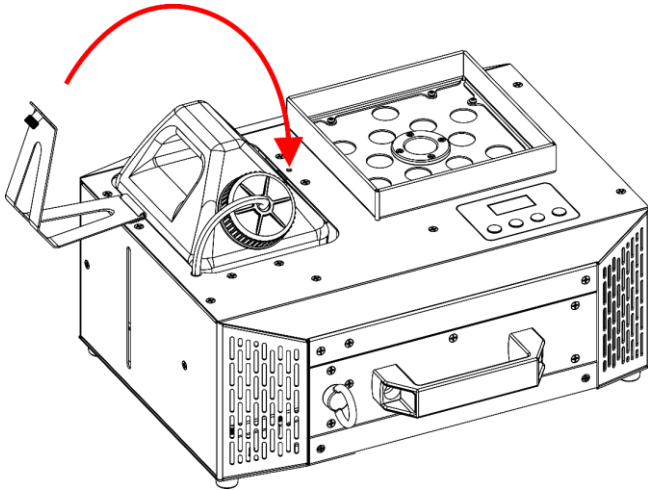

Fig. 36
- 11) Tilt the **bracket for liquid tank (03)**, as shown in Fig. 36.